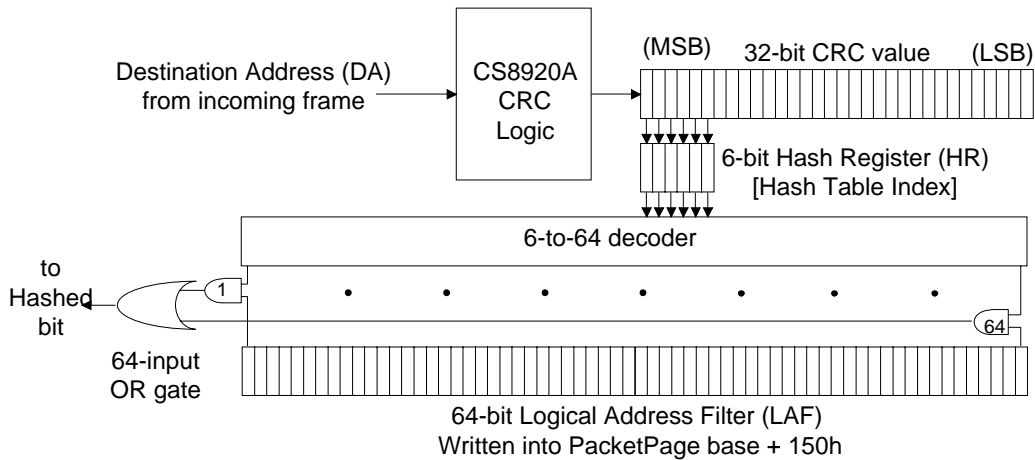

Figure 5.5. Hash Filter Operation
Hash Filter Operation: See Figure 5.5. The DA of the incoming frame is passed through the CRC logic, generating a 32-bit CRC value. The six most-significant bits of the CRC are latched into the 6-bit hash register (HR). The contents of the HR are passed through a 6-to-64-bit decoder,